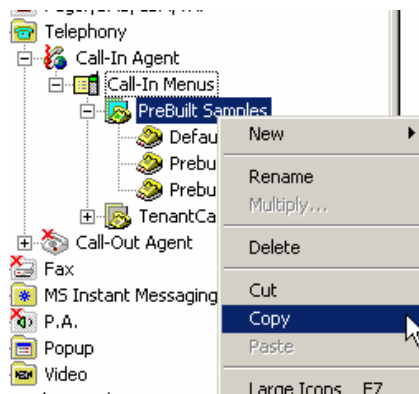

Figure 9.6. Copying a Group or Menu
1. Right-click on a group or menu and select **Copy** from the pop-up menu, as shown in Figure 9.6.